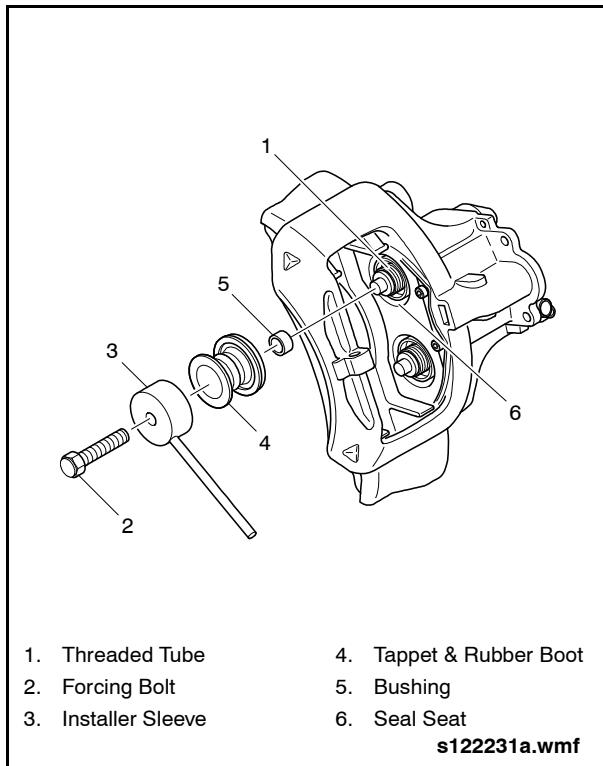

Fig. 1-70: Installing Tappet & Rubber Boot
9. Hold the installer sleeve (Item 82 from special tools list) against the rubber boot and use the long forcing bolt to press the rubber boot against the stop in the seat. See "Fig. 1-70: Installing Tappet & Rubber Boot" on page 72.